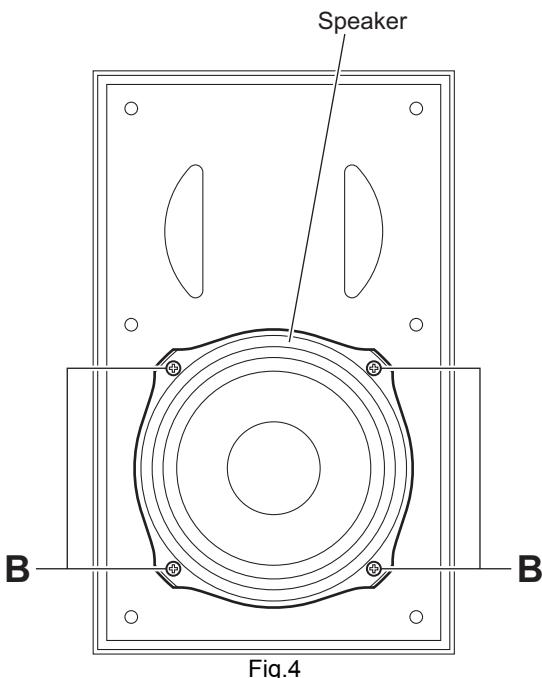

Fig.4
(See Figs.4 and 5)
- (1) From the front side of the speaker main body, remove the four screws **B** attaching the speaker. (See Fig.4.)